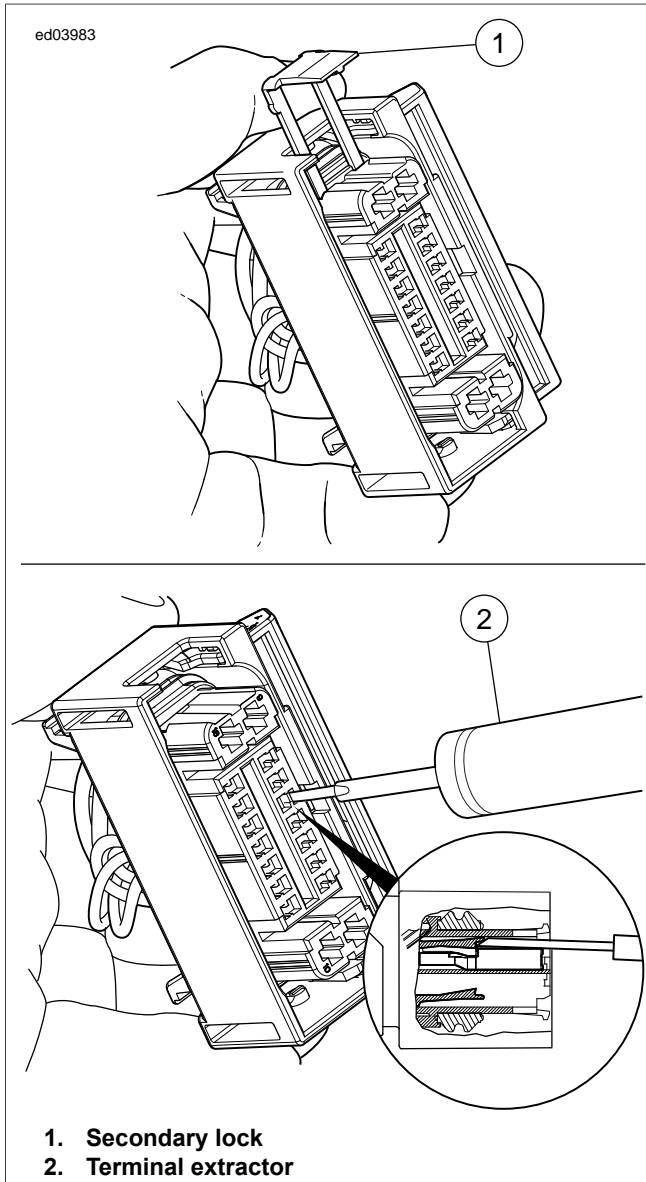

Figure B-38. Removing Small Socket Terminals
3. See Figure B-38. Insert the TERMINAL EXTRACTOR (Part No. B-50085) into the cavity on the outside of the terminal.